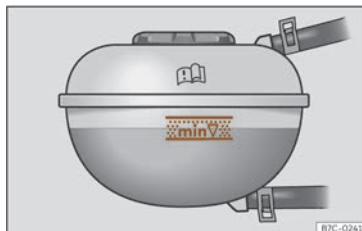

Fig. 222 In the front compartment: marking on coolant expansion tank.
- When the engine is cold, check the coolant level using the side marking on the expansion tank >>> **Fig. 222**. The coolant level should be between the marks.
- The coolant level must be between the marks on the expansion tank >>> Fig. 222. **Never exceed the top edge of the marked area** >>> .
- **When topping up the, do not fill over the upper edge of the marked area >>> Fig. 222. Otherwise, when the temperature rises the excess fluid will be expelled from the motor cooling system and could cause damage.**